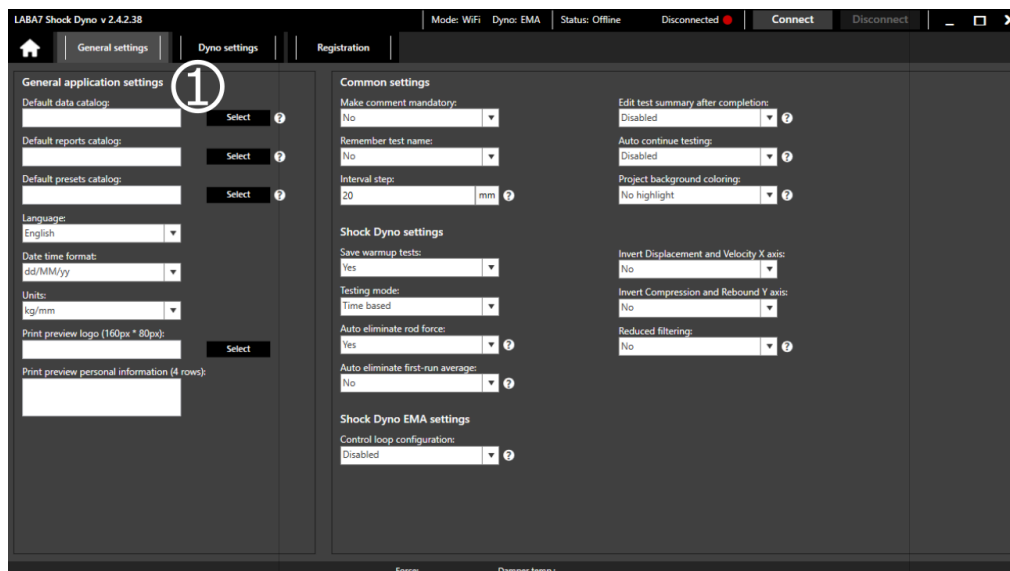

Figure 15
2. Select the default data catalog, this is the catalog, where all of your test project files will be saved (Figure 15 – Step 1).